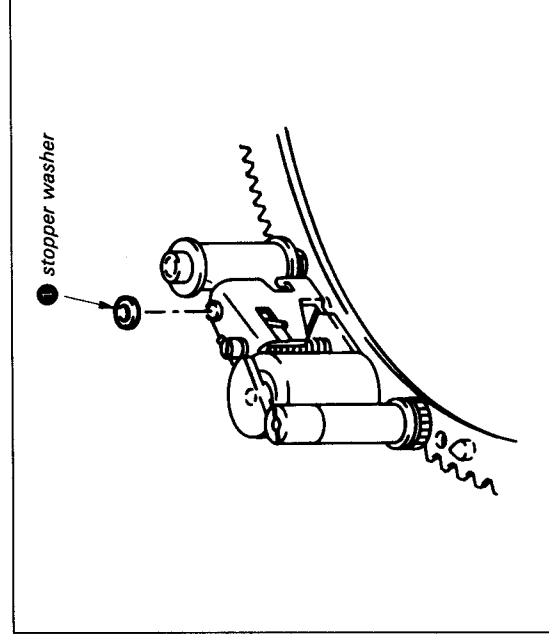

Fig. 7-14.
7-3-8. Pinch Roller Assembly (See Fig. 7-14. ~25.)
- 2) Remove stopper washer ①. (See Fig. 7-14.)